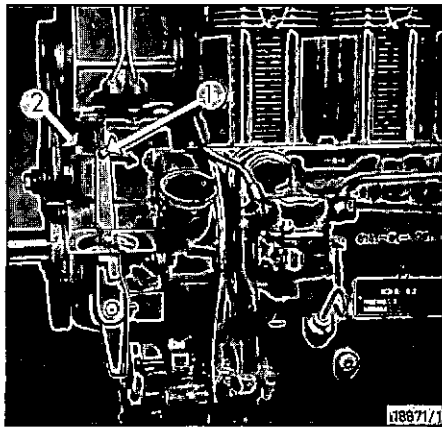

Fig. 9
2. Set speed control lever 1 (Fig. 9) by hand or foot to about $\frac{1}{2}$ load in the direction of the arrow and press starting fuel allowance button 2 once.
2. Set speed control lever 1 (Fig. 9) by hand or foot to about $\frac{1}{2}$ load in the direction of the arrow and press fuel excess button 2 once.